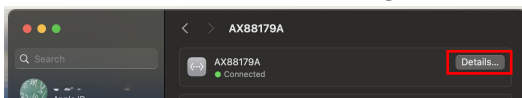

Figure 11
5. In the interface screen, click **Details**. (Figure 11)